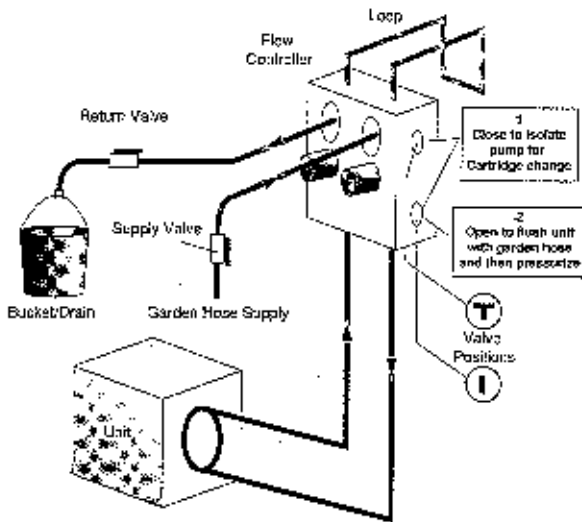

Figure 10 - Cartridge Replacement Procedure
First isolate the pump in question as in Figure 10. Always **disable power to the pumps** and remove pump power wiring if needed. Close valves as in Step 1 of Figure 10.
- Place garden hose supply and return on flush ports as shown in Figure 10 and open valves to flush through the unit portion of loop. When water flows clear, close return side to pressurize and finally close the supply side valve. Finally close 3-way valves to operation position Figure 9E. The loop can also be reflushed using the complete procedure outlined for installation.